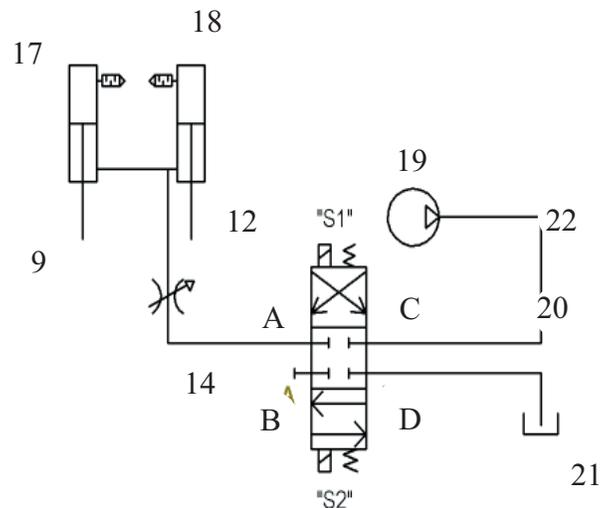

Figure 2.5 - Hydraulic Schematic
2. *Figure 2.5* illustrates the ideal setup for the hydraulic routing. The hydraulic cylinders (#17) are fed by a pressure line with a needle valve (#9) from the main switch block (#12) connected to port A. The one side of the block is tee'd into a fixed displacement pump (#19) circuit (#22) connecting to the block at port C. Port D on the block is tee'd into the tank line (#21). Port B is plugged (#14).